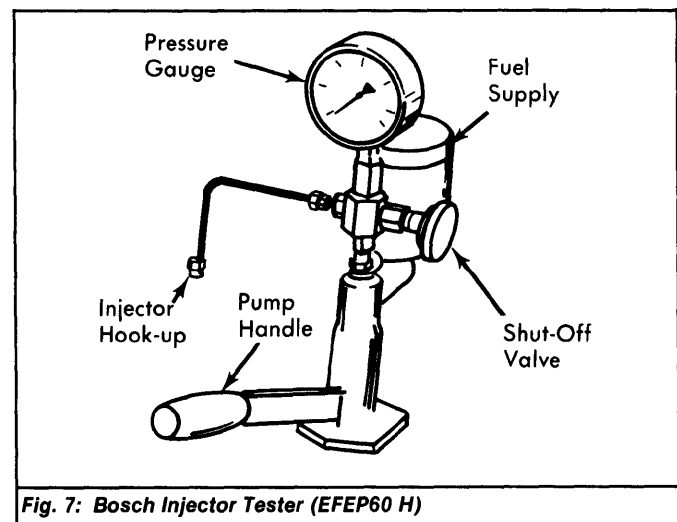

Fig. 7: Bosch Injector Tester (EFEP60 H)
**Volvo** – 1) Connect injector to Bosch Injector Tester (EFEP60 H) and apply pressure until injector opens. See Fig. 7. Pressure should be 37-51 psi (2.6-3.6 kg/cm2). If not, replace injector.